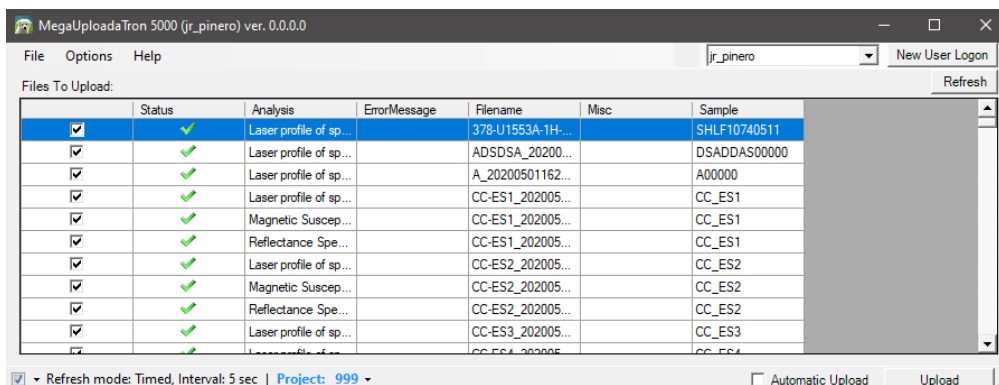

Figure 12. Main MUT screen
2. Once activated, the list of files from the **C:\DATA\IN** directory is displayed. Files are marked ready for upload by a green check mark (Figure 12).